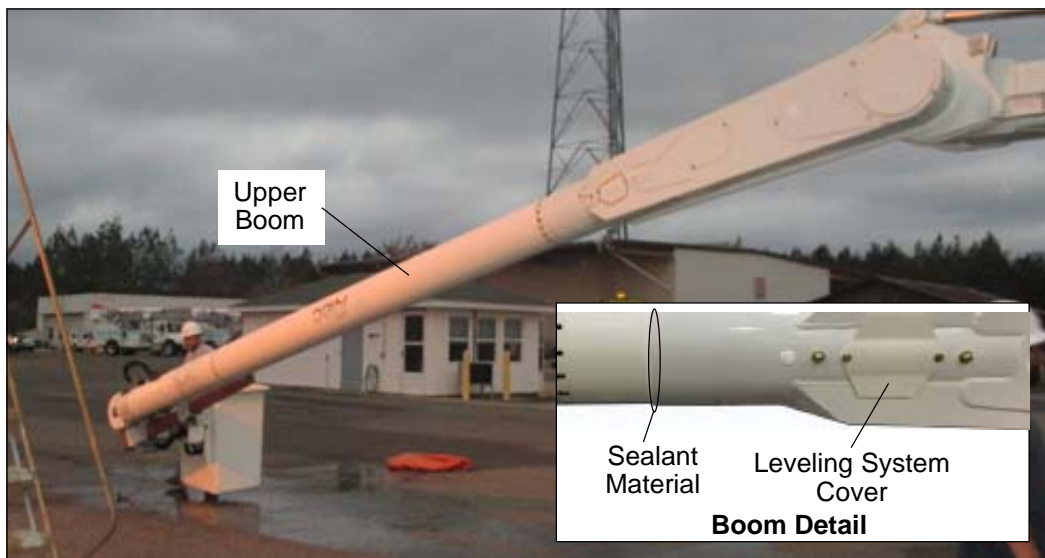

Figure 1 — Upper Boom Position
3. Operate the unit from the lower controls and position the unit with the upper boom in the overcenter position with the platform about one foot from the ground in order to gain access to the fiberglass to steel interface (refer to Figure 1).
4. Remove the cap screws attaching the leveling system access cover on the upper boom weldment (refer to Figure 1).
5. Use a putty knife or similar tool to remove all sealant material around the outside of the fiberglass to steel joint, taking care not to damage the fiberglass (refer to Figure 1). The sealant that is used to seal the steel to fiberglass interface **MUST** all be removed to allow maximum visibility of the joint.